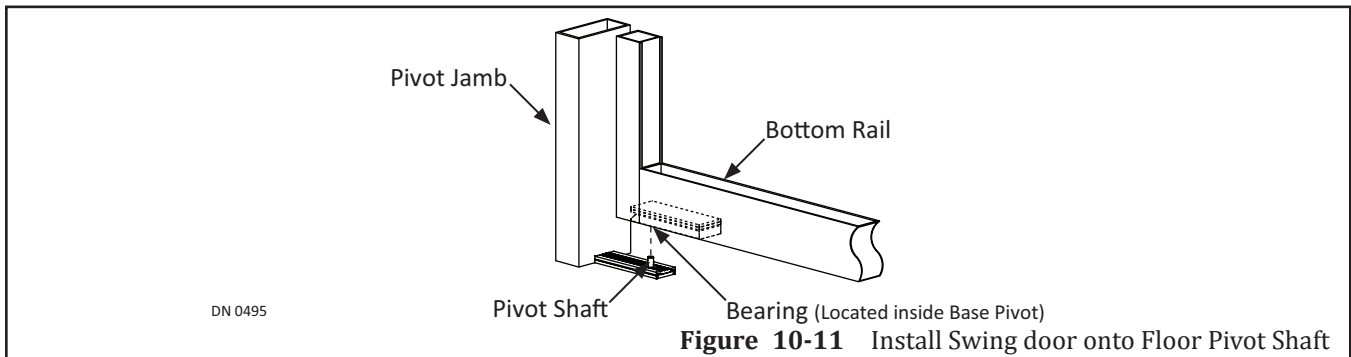

Figure 10-11 Install Swing door onto Floor Pivot Shaft
5. Go to the bottom Door Rail. Slide the Bearing onto the Pivot Shaft. Please see Figure 10-11.